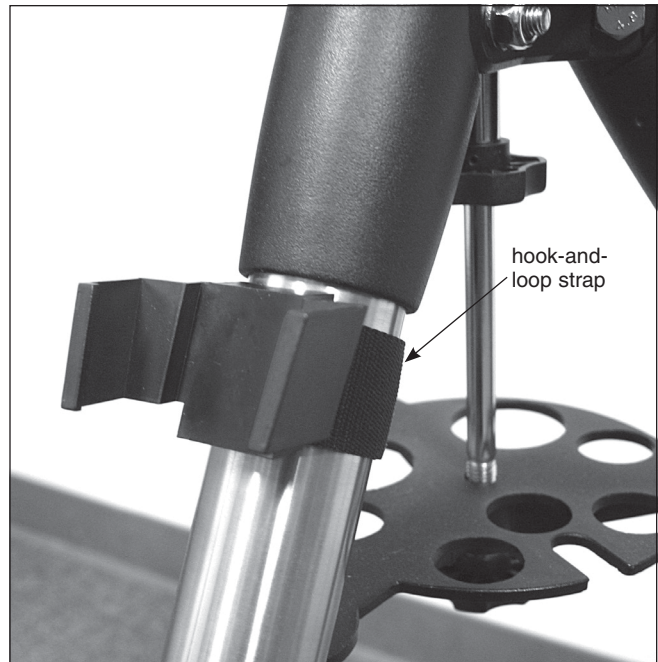

Figure 14. Installing the GoTo hand controller bracket
1. Strap the included hand controller bracket to a tripod leg above the tripod center support tray using the hook-and-loop strap, as shown in **Figure 14**.